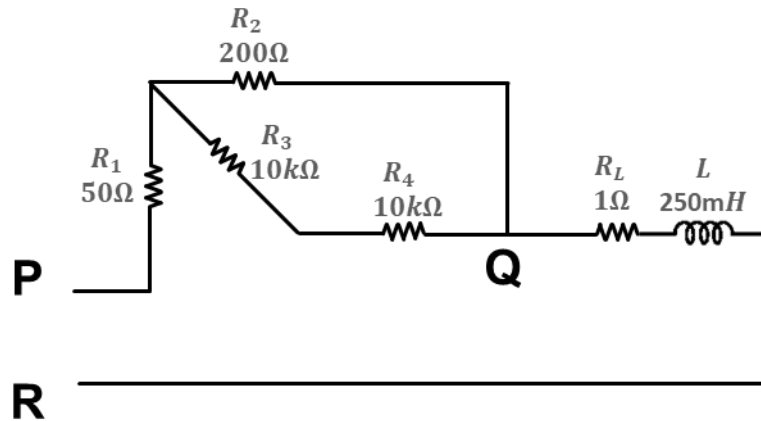

Figure Q5B – Final impedance network
- (b) A single-phase motor winding has now been put in series with the resistance network (see Figure Q5B below). The motor winding is a real inductor which can be approximated as an ideal inductance in series with a small resistance. An AC voltage of 240Vrms 50Hz has been applied between P and R. What is the impedance of the motor winding (mention magnitude and phase), i.e., between Q and R? [6]